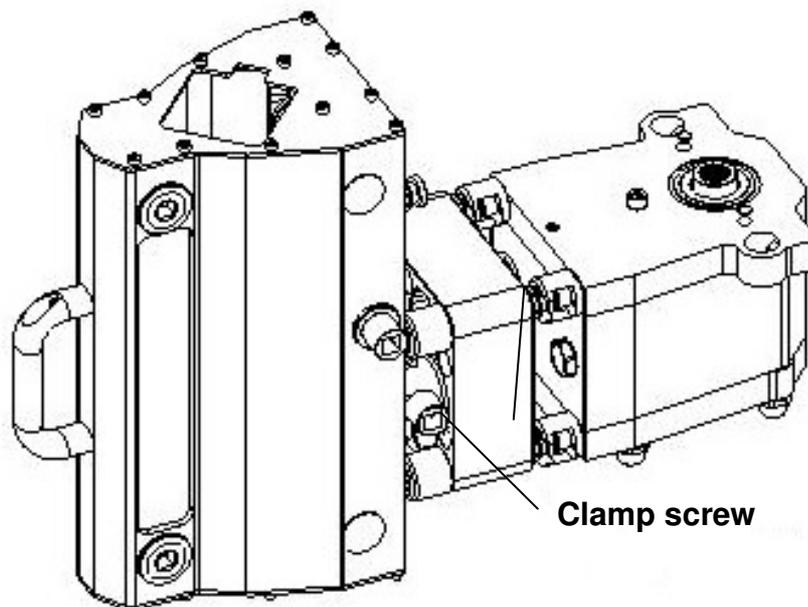

Fig. 7 Extension adapter-ER mounted between carriage CE1 and gearbox MG41.
1. Mount the extension adapter on the quick couplings on the carriage. (se fig. 7)